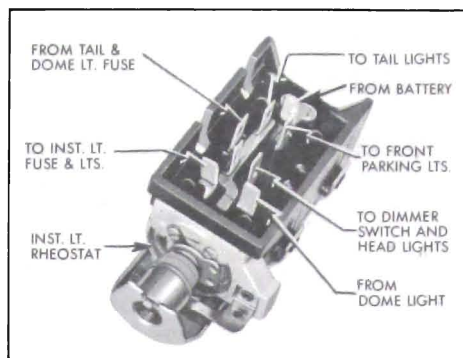

Figure 10-53—Light Switch
2. With switch on, connect the headlight terminal of lighting switch and the negative post of battery. See Figure 10-53.